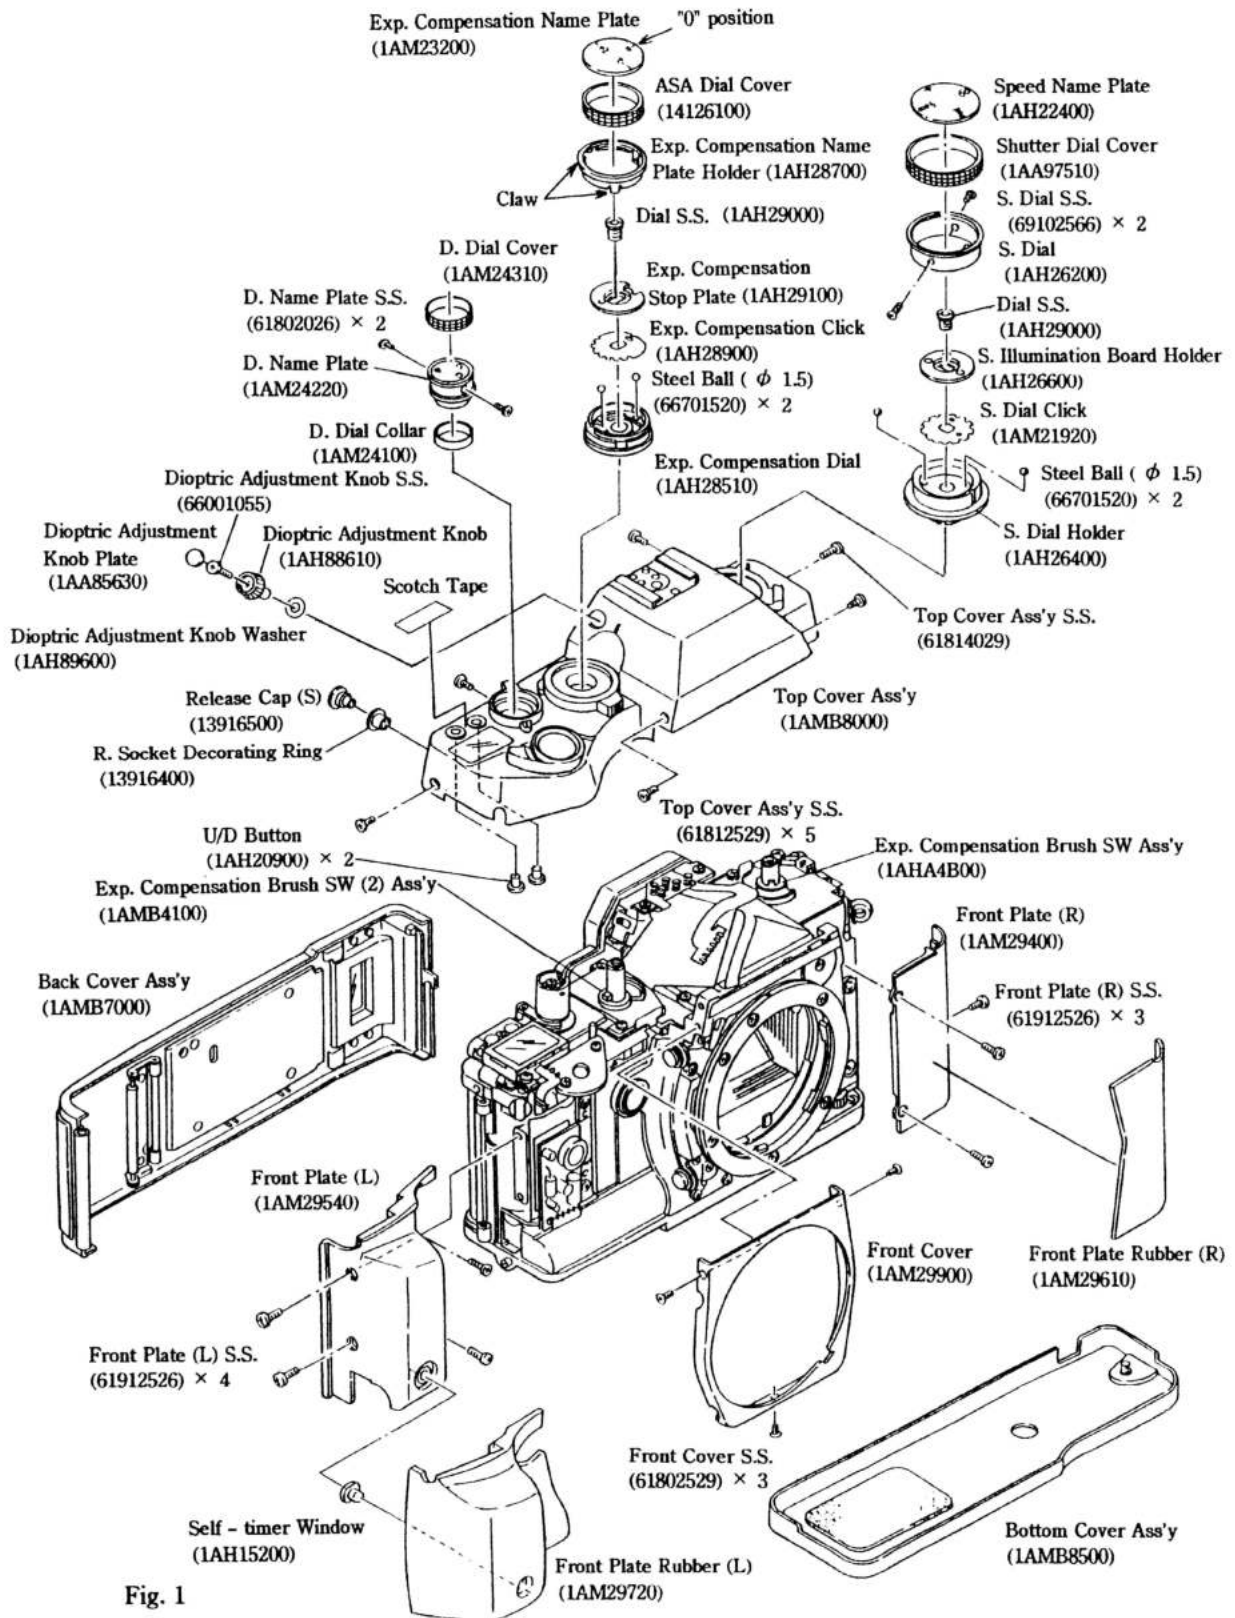

Fig. 1
11) Remove the Release Cap (S) (13916500) and R. Socket Decorating Ring (13916400).
12) Stick the Scotch Tape to the U/D Button (1AH20900) $\times$ 2. (See Fig. 1)
Notes: a) After the removal of the Top Cover Ass'y, you can take off the Exp. Compensation Brush SW Ass'y (1AHA4B00) and Exp. Compensation Brush SW (2) Ass'y (1AMB4100). (See Fig. 1)